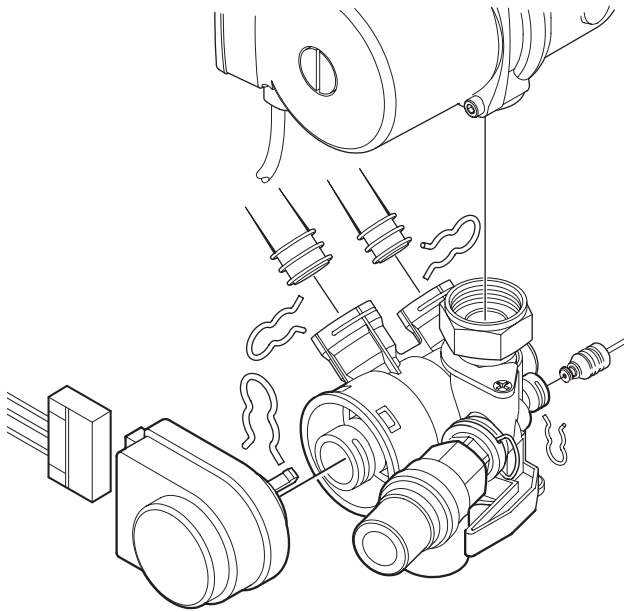

Fig. 64
- Unplug connector from 3-way valve motor. Refer to fig. 64.